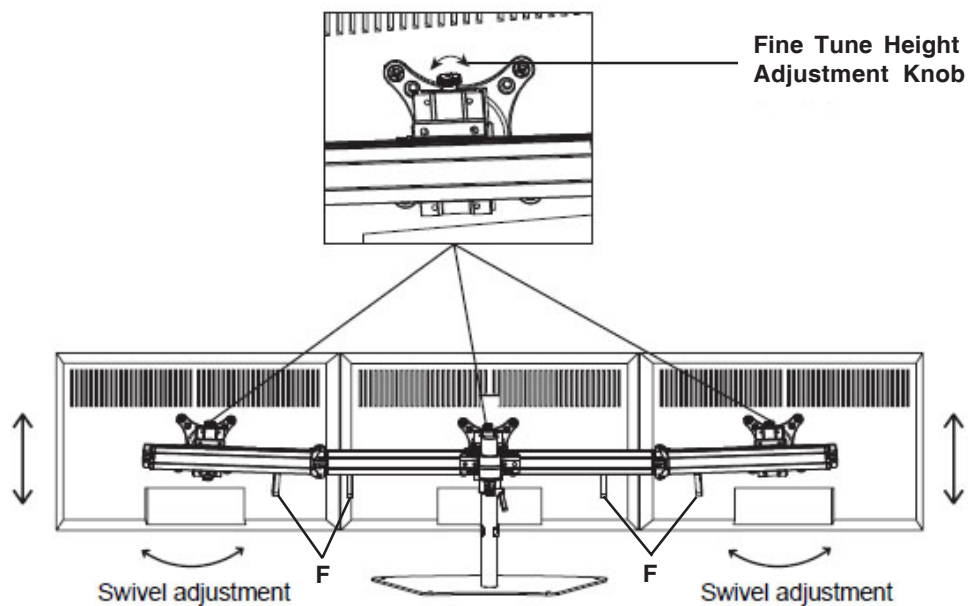

Figure 6
2. Move the displays vertically into the desired position using the **Fine Tune Height Adjustment Knob** at the top of the VESA plate holder and install the **Wire Clips (F)**, see **Figure 6**.